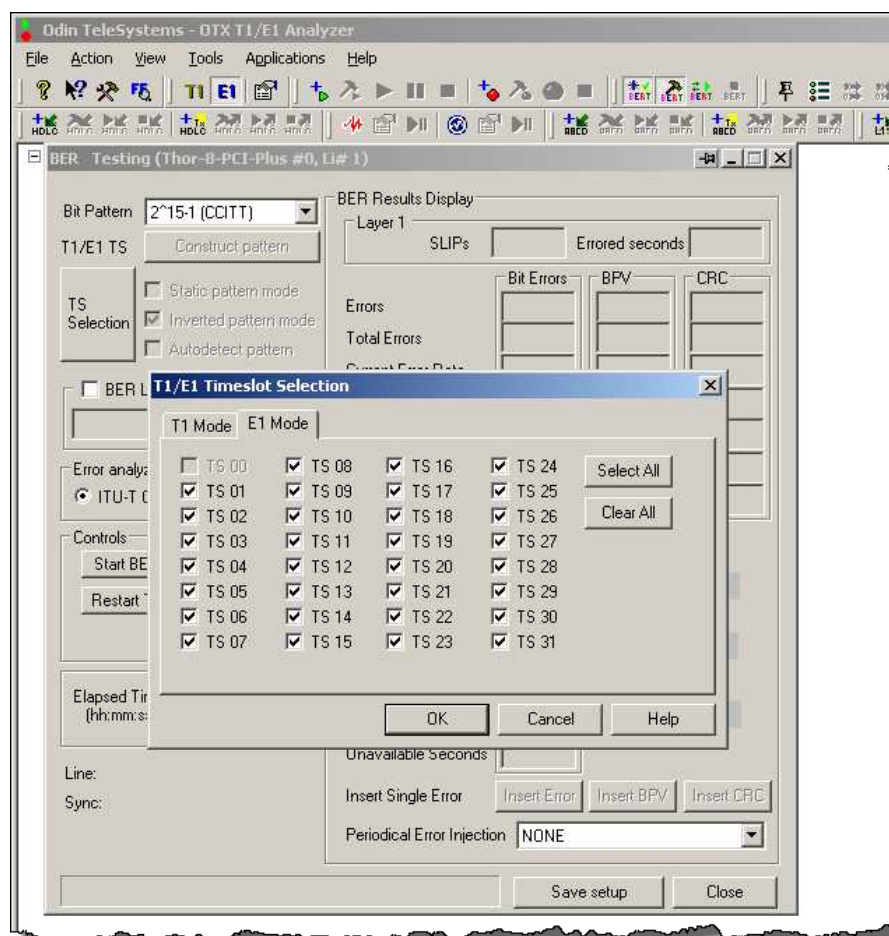

Figure 25 Configure BERT.
6. Click on the “BERT Setup” icon (icon with a “hammer”) on the toolbar to setup all spans together. In a "BERT Testing" window set "Bit Pattern" option to "2¹⁵-1 (CCITT)". Then press "TS Selection" button and "Select All" button in opened window. Press "OK" and "Save setup" (See Figure 25).
9. Select the span level as the scope of operations. Without stopping BERT, click on the "BERT Setup" button (Figure 25). In the appeared window (Figure 27) pay attention to the Error Counters and the BERT progress indicator (marked with an arrow).